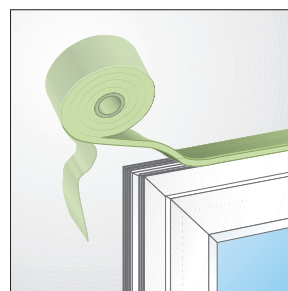
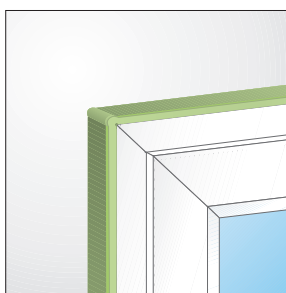

Fig. 2
Fig. 3
- Prior to installing the window, cut off the wedge shaped start of the roll and apply the tape to the outer edge of the window frame, recessed back from the external frame face by 1 – 2 mm, applying a separate length for each side to be sealed, bonding with the aid of the self-adhesive strip, ensuring that the light grey tape face is to the inside of the opening (See Fig. 2). Normally, the TP650 is applied to the head and two sides to allow for insertion of packers under the sill. Allow an extra 20 mm/m when cutting the tape length to allow for potential shrinkage- the dimension should be based on the opening size, not frame dimension. Make tight butt joints at the corners and between the end of one roll and start of another. Pay particular attention to the corner joints (See Fig. 3).
The sealing tape must be butt-jointed in corners (Fig. 3). Allow an extra 20 mm/m to allow for potential shrinkage. When applying TP650 in conjunction with sealing materials, paints, and natural stone, ask for compatibility information. The tape must not come into contact with chemicals containing solvents or corrosive substances. High temperatures accelerate tape expansion, while low temperatures delay this. At ambient temperatures above 20°C, the tape should be stored in a cool place on the construction site away from direct sunlight. A small fridge is ideal for this. Put weight on the remaining rolls in the carton to prevent them from expanding laterally (telescoping).